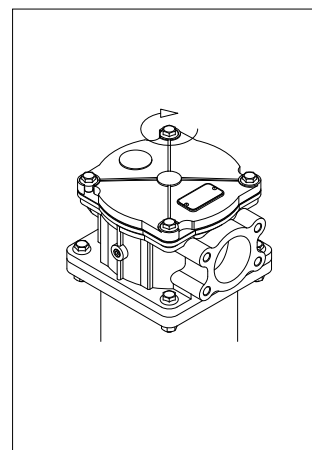

fig. 33
- (Fig. 33) Fasten the cover screws referring to the tightening torque table in paragraph 3